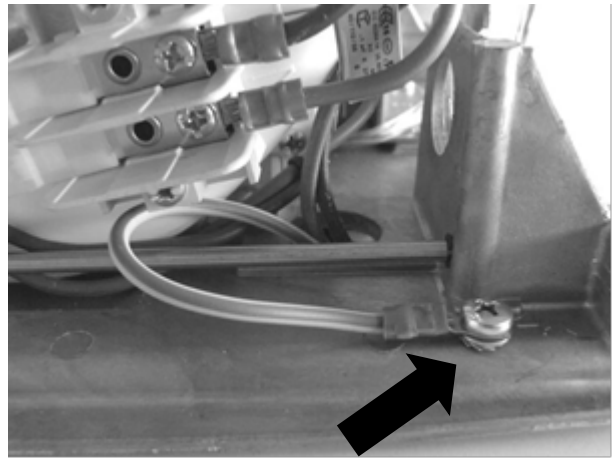

Fig.5
6. Connect the electrical cables to the terminal block, following the instructions on the plate placed near the terminal block (fig.5).